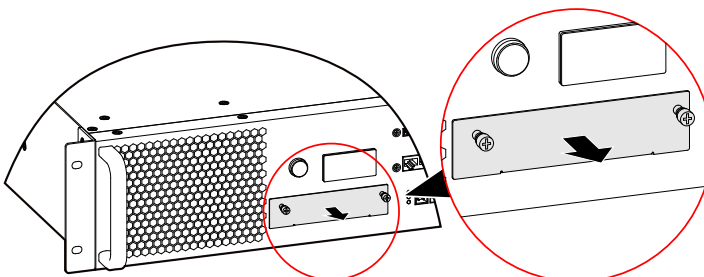

Figure3-23 Dismantle the expansion card cover plate
Step 1 Loose the screws of the expansion card plate on the bypass unit, and then take down the expansion card cover plate, as shown in Figure3-23.